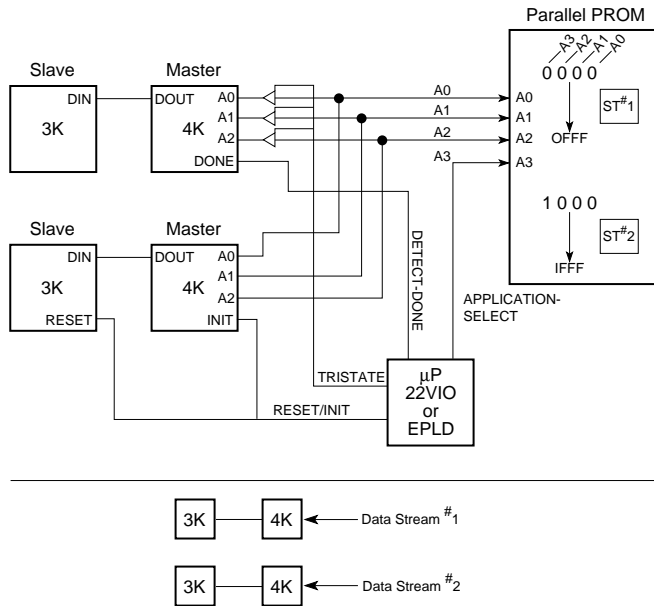

Figure C-3 Configuration Setup for Multiple Device Daisy Chains
2. Connect the components on your board as shown in Figure C-3.